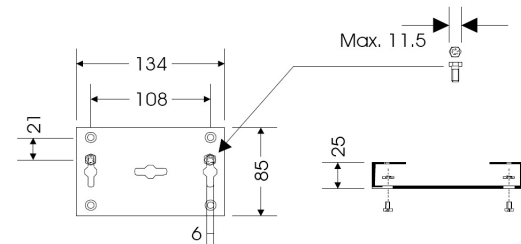

fig.5.1 - Standard bracket dimensions in mm
1. The first (and most often used) method is to use the standard mounting brackets supplied with the unit. Dimensions of the bracket are shown in fig.5.1.